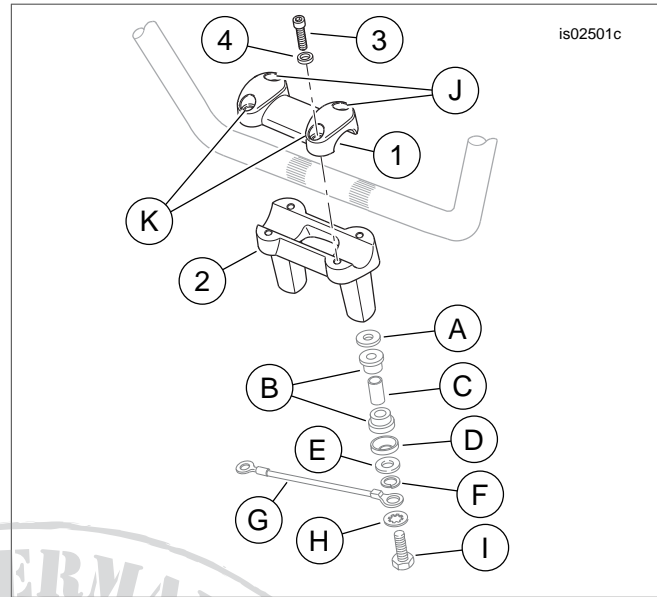

Figure 1. Service Parts, One-Piece Fat Handlebar Riser Kits
See Figure 1 and Table 1.
2. See Figure 1. Remove two riser mounting screws (I) from under the upper fork bracket. Remove the risers and hardware (A through H). Note the sequence and orientation of the hardware as it is removed and retain it for later installation.